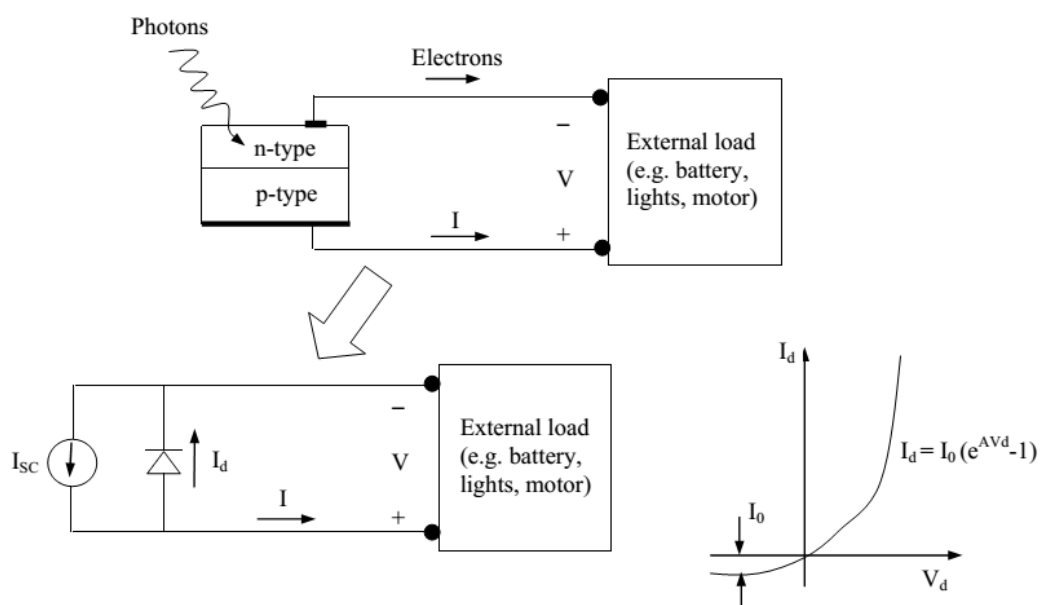

Fig. 1: Equivalent Circuit of a solar cell
Fig. 1 shows the equivalent circuit to describe a solar cell. The diode current can be written as equation (1) which comes from the standard I-V equation for a diode and is also illustrated in fig. 1.